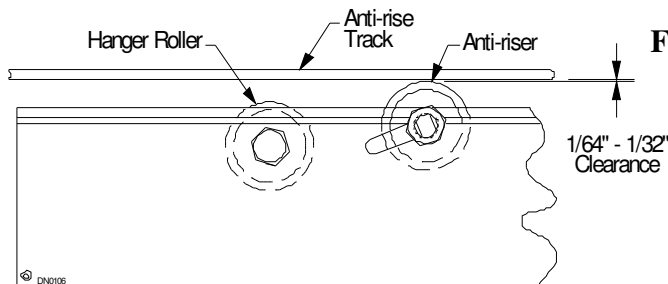

Figure 27
1. Loosen hanger roller and anti-riser nuts with a 15/16 wrench (See Figure 27).
5. Slide anti-risers up in slot until there is a 1/64 inch to 1/32 inch gap between anti-riser wheel and anti-riser track (See Figure 27). Tighten nut on anti-riser wheel.